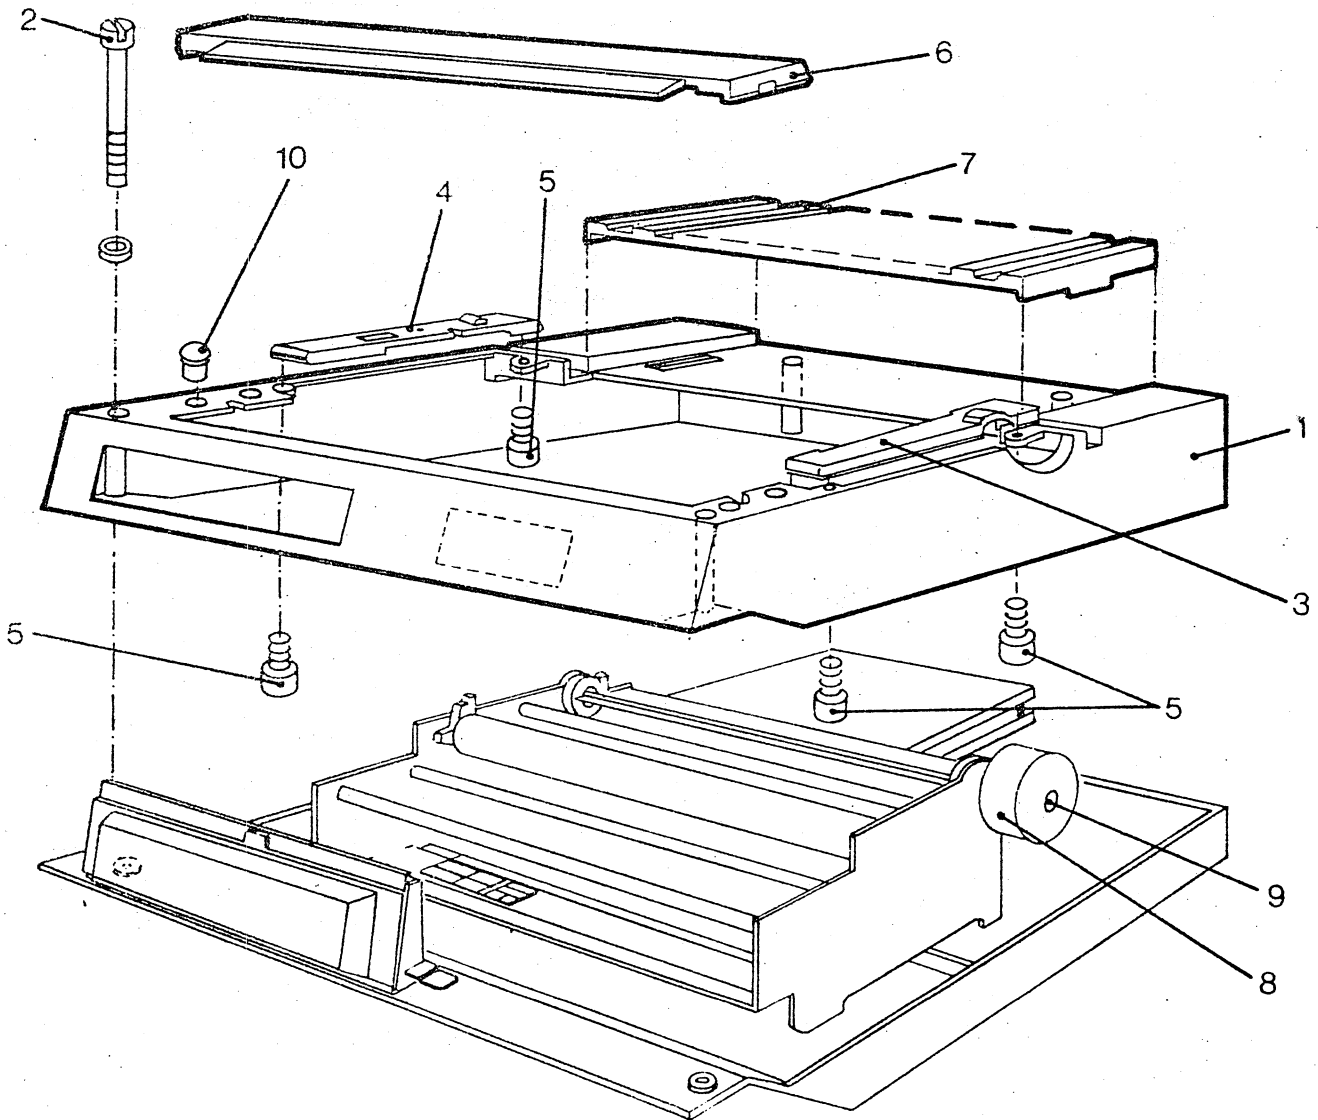

Fig. 8-31
- . The SPPL covers are made-up by plastic modular elements as shown in fig. 8.31
- . The front cover (item 6) is held only by magnets (item 10). It must be removed to gain access to the print head and to the carriage-clutch-mistor motor assemblies.
- . The paper chute (item 7) is pressure fitted and must be removed during paper load operations.
- . The top cover (item 1) is fixed by 4 screws (item 2) accessible from the upper part of the unit. Before extracting this cover, remove the paper feeding knob (item 8) which is kept in place by a coaxial screw (item 9).
- . Remove the upper cover (item 1 fig. 8.31)
- . Remount the covers previously removed (items 1, fig. 8.31)
- . Remove the upper cover (item 1, Fig. 8.31)